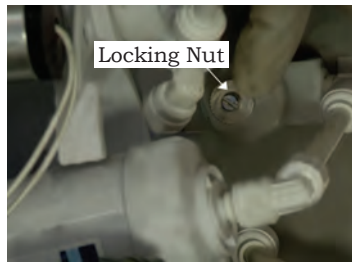

Fig. 4.107
2. To adjust the TDS levels, unscrew the locking nut first as shown in Fig. 4.107.